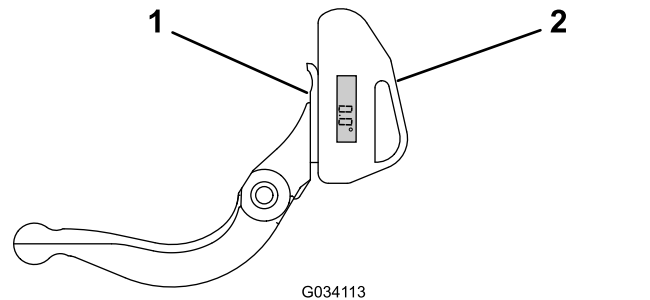

Figure 35
1. Place the angle indicator on the bottom side of the bedknife as shown in Figure 35.